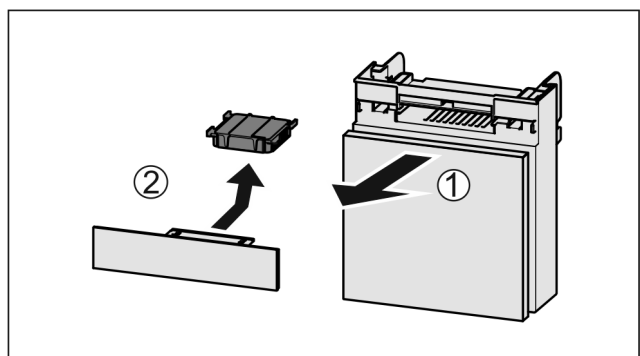

Fig. 168
- ▶ Pull out the compartment Fig. 168 (1).
- ▶ Remove the carbon filter Fig. 168 (2).